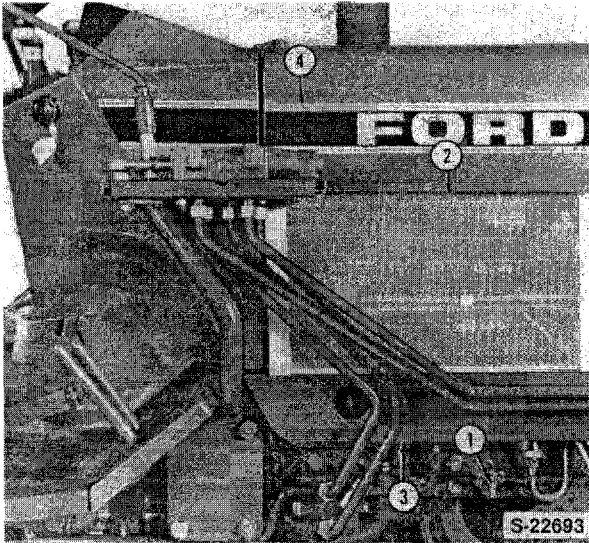

Figure 92
1. Drain the radiator and block coolant in a clean container, Figure 92.
4. Remove the hood and side screens, Figure 92.
5. Remove the lower side panels, Figure 92.
8. Remove the radiator to drain cock hose from the drain cock, Figure 92.
2. Open the radiator drain, Figure 92, and collect the coolant in a clean container.